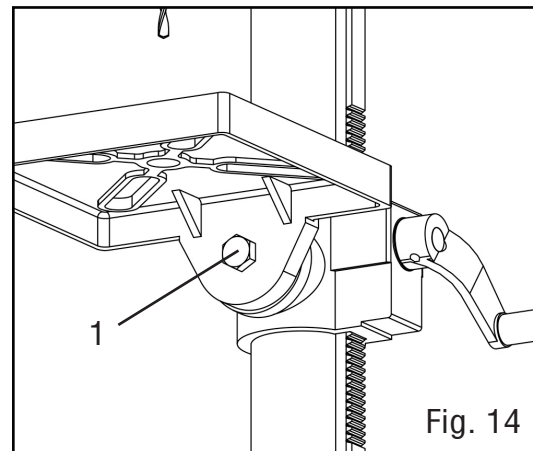

Fig. 14
1. Loosen the bevel lock bolt (Fig. 14 - 1) with a 19 mm socket or wrench (not included).